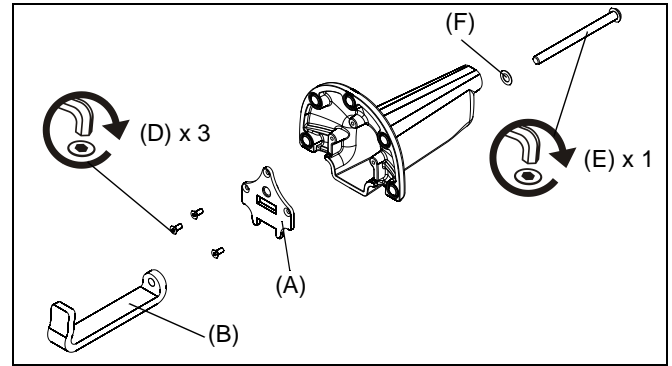

Figure 3
1. Attach clamp bracket (B) and bracket grommet plate (A) to desk mount using three M4 x 10mm flat head cap screws (D), one 5/16-18 x 4" button head cap screw (E), and one spacer (F). (See Figure 3)